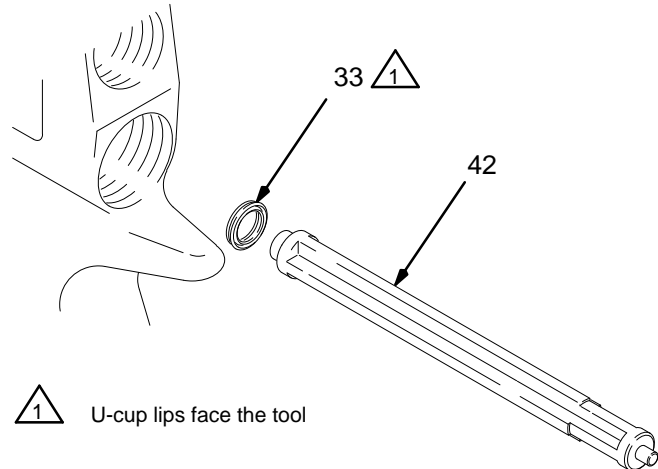

Fig. 8
4. Place the new u-cup seal (33) on the seal installation tool (42) with the u-cup lips facing the tool as shown in Fig. 8.
5. Push the packing (33) into the gun until a definite snap is felt.